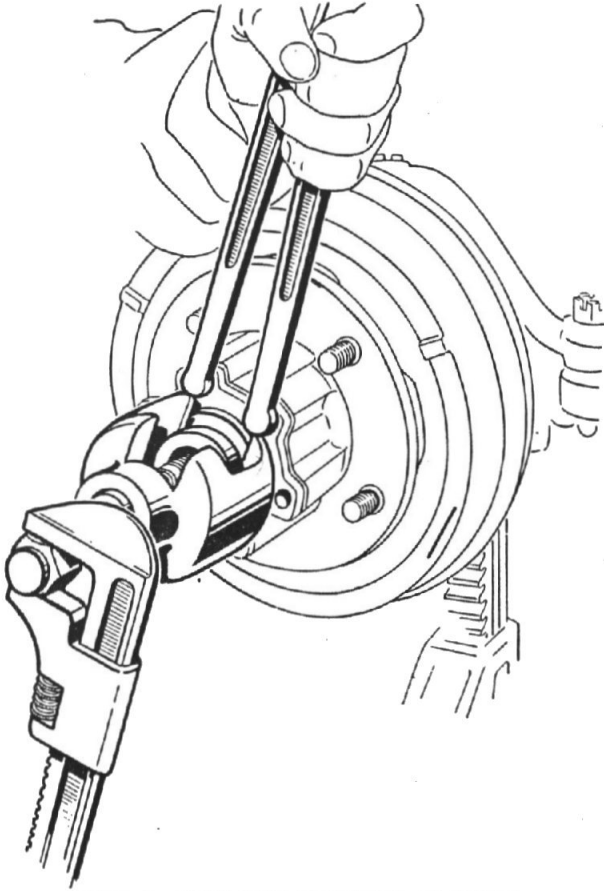

FIG. 3—PULLING DRIVING FLANGE
5. Apply the foot brakes and remove the axle shaft flange with puller furnished in tool kit, see Fig. 3.